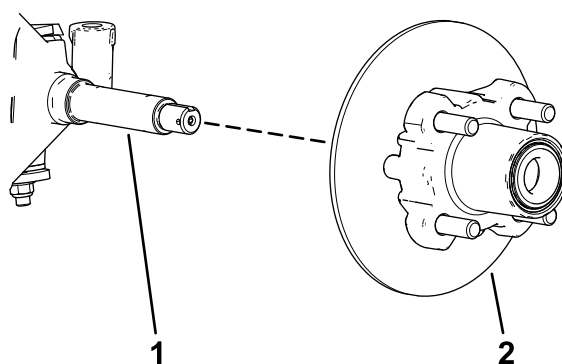
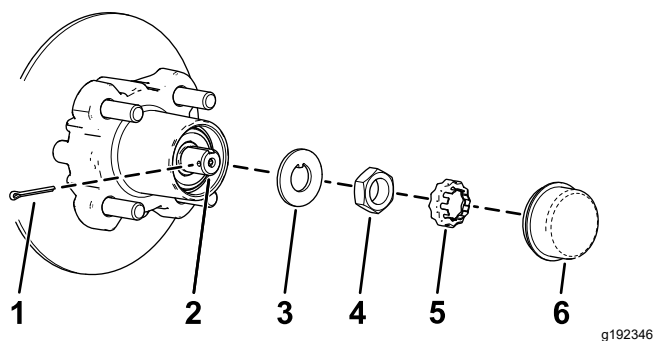

Figure 34
Figure 33
4. Remove the dust cap from the hub (Figure 33).
5. Remove the cotter pin and nut retainer from the spindle and spindle nut (Figure 33).
6. Remove the spindle nut from the spindle, and separate the hub and rotor assembly from the spindle (Figure 33 and Figure 34).